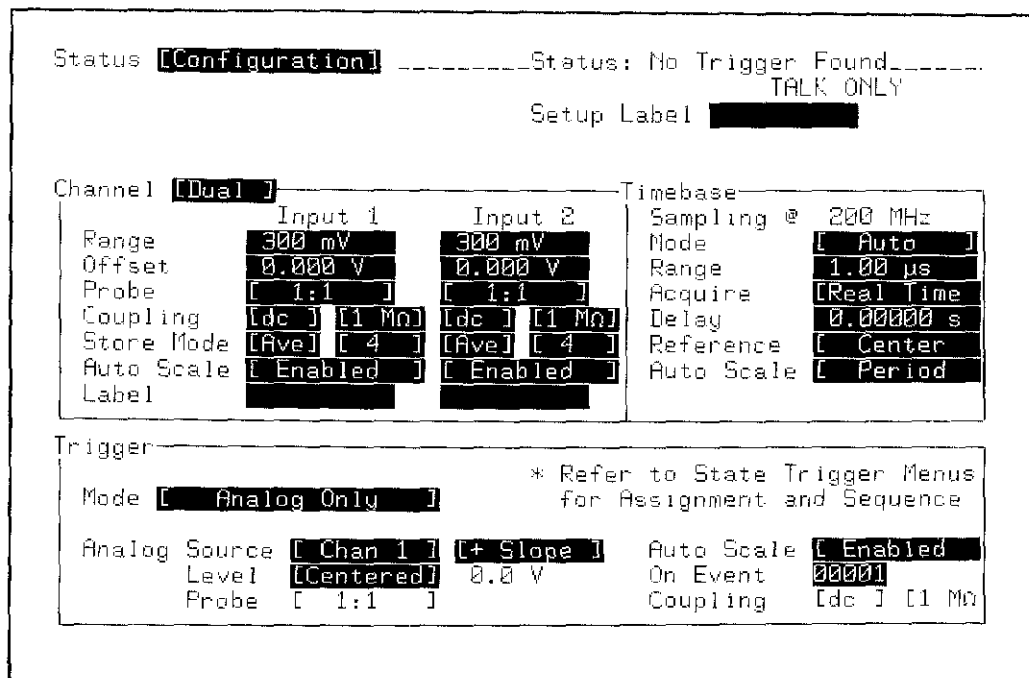

Figure 3-4. STATUS Configuration Menu
1. Configure STATUS Configuration menu as shown in figure 3-4.